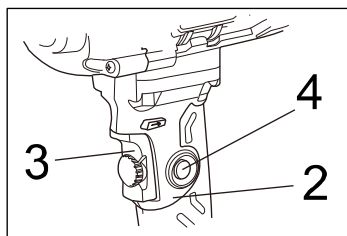

Fig. 5
1. Squeeze the switch trigger (3) (Fig. 5).
2. While squeezing the switch trigger, press the lock-on button (4) into the drill handle (2).